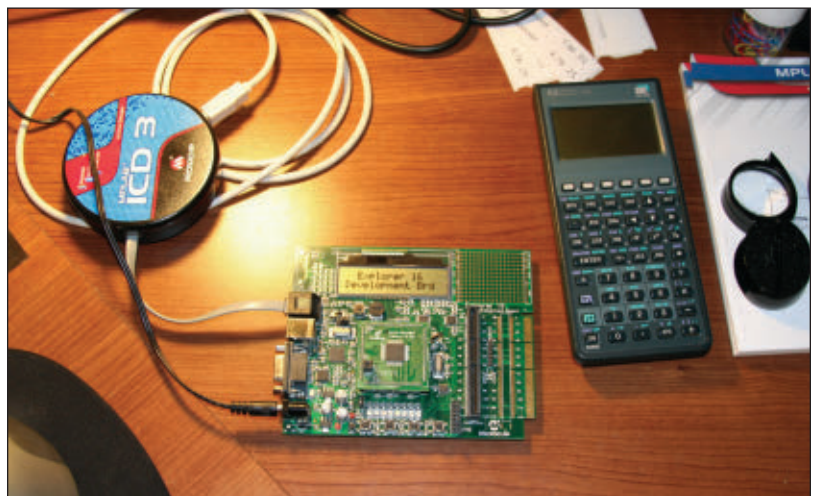

Figure 8. The Microchip Explorer 16 dev board.
A. Thanks for reading and asking questions! I'll be happy to give an example of PWM on the PIC24 line. Compared to the older (SO 20th century) PIC, doing PWM is simple on the PIC24FJ line, with one exception: the *Peripheral Pin Select* operations. However, with a little effort, even that gets simpler. **Figure 8** shows the Microchip Explorer 16 board that I am using for this example. It has buttons, LEDs, a temperature sensor, voltage sensor (on a pot), LCD display, PICTail interface, and other bits and pieces of useful stuff to experiment with. **Figure 8** also shows the ICD3 programmer/debugger that I use for most of my hobby work. We'll select one of the LEDs on the board to dim and brighten using PWM on a configurable I/O output line of the PIC24FJ64GA004.